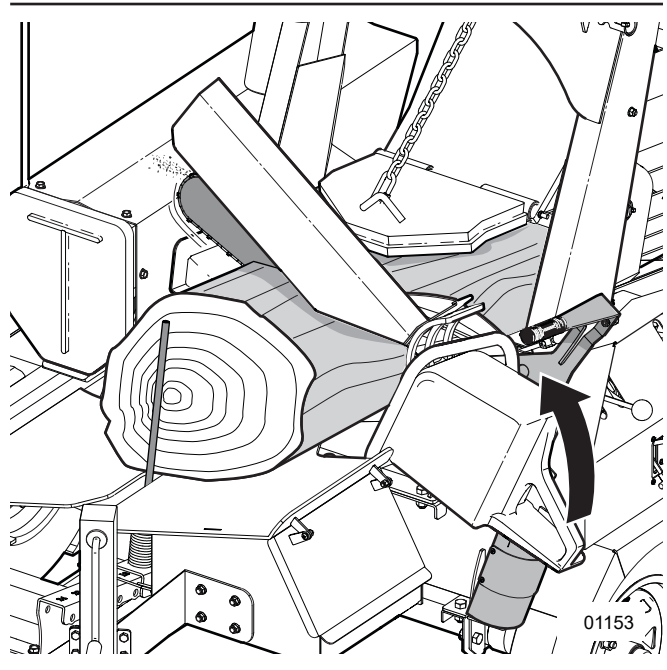

Figure 40—Cut a log
3. Operate the chainsaw to cut a log. Also, you can use the holder handle. See *Figure 40*.